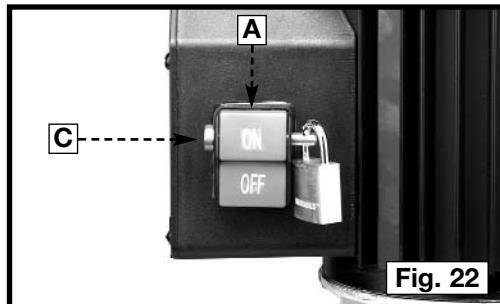

Fig. 22
When the tool is not in use, the switch should be locked in the "OFF" position to prevent unauthorized use. Insert the lockout pin (C) Fig. 22 (Delta accessory model number 50-164) through the hole in the start button (A). Place the 1/8" shank of a lock through the hole in the lockout pin and secure.